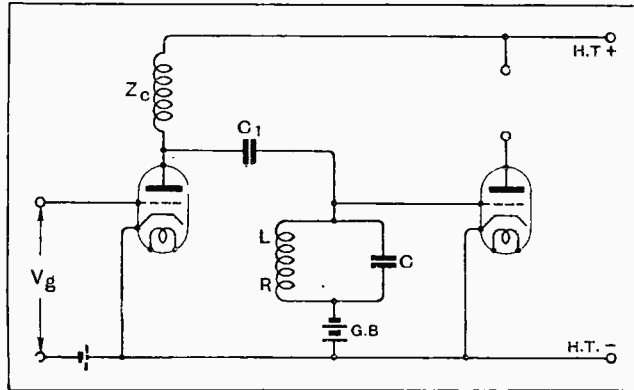

Fig. 2.—The orthodox tuned-grid coupling. The resistance R_1 of Fig. 1 is replaced by a high-frequency choke Z_c .
Fig. 2 shows the whole scheme. On the left you see the four separate receivers at the central receiving station, each having its own frame aerial, its own fading-compensator, and its own H.F. amplifier and band filter. Each receiver passes on the partly amplified radio-frequency band received from its particular distant station to the common, aperiodic H.F. power amplifier (3), which still further amplifies the mixture and passes it on by line (4) to the ultra-short transmitter (7); losses on the way are made up for by the aperiodic repeater at (5). The apparatus marked (6) is a complication
Fig. 2.—Schematic diagram of multiple rebroadcast arrangement. On the left are four separate receivers at the central receiving station which feed into an aperiodic H.F. power amplifier 3. This is followed by a repeater 5 and an ultra-short-wave transmitter 7.
as possible to all high frequencies over the range of wavelengths to be received; that is to say, the resistance R_1 must be replaced by a high-frequency choke. When this is done the circuit becomes as shown in Fig. 2.
The simple equivalent A.C. circuit corresponding to the choke-capacity-tuned grid coupling is indicated in Fig. 3 (a), where R_a represents the A.C. resistance of the first valve, Z_c the impedance of the choke in its anode circuit, and LRC the tuned grid circuit itself. In this equivalent circuit the coupling condenser C_1 in Fig. 2 would normally have to be included at the point marked Y in Fig. 3 (a). But as the capacity value of this condenser is chosen so that its reactance at all operating frequencies is small compared with the dynamic resistance of the tuned circuit, the condenser may be omitted from the equivalent circuit without making any appreciable difference to the calculated value of the voltage amplification obtained, whilst at the same time greatly simplifying the calculation.